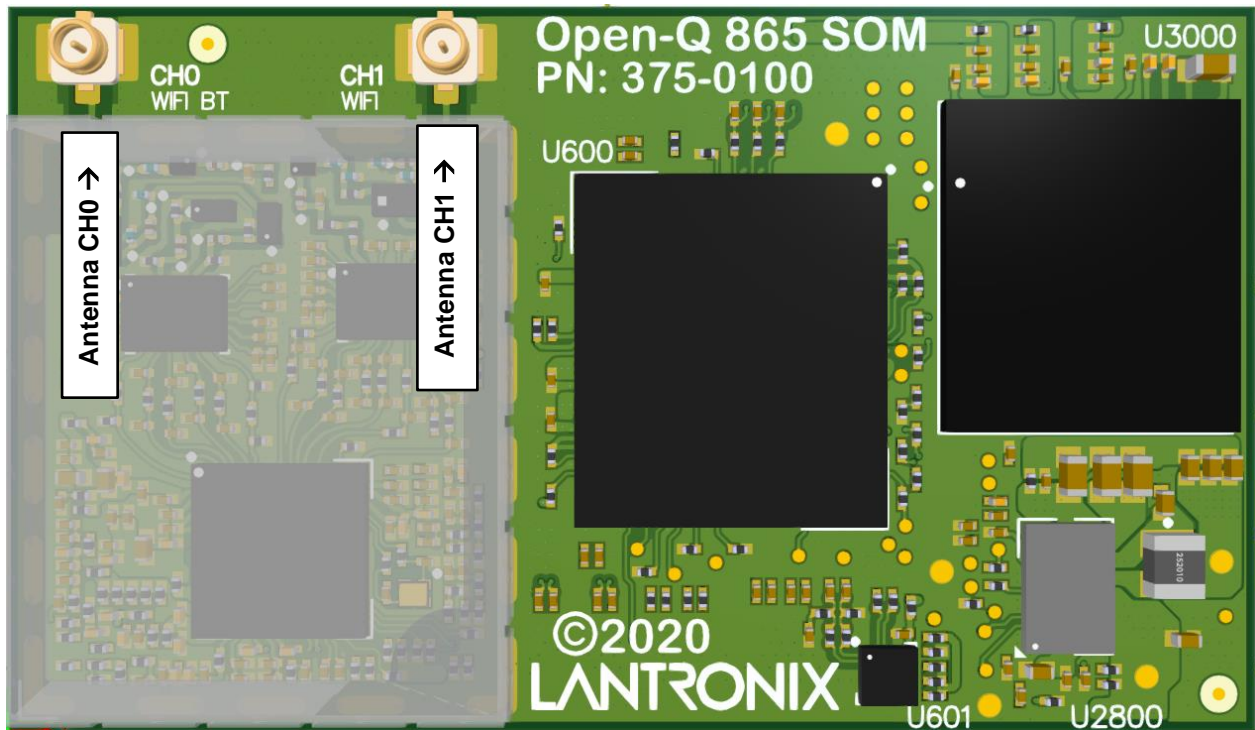

Figure 5. Antenna Connection Locations on SOM
The SOM uses two U.FL coaxial connectors (Hirose U.FL-R-SMT-1 (10)) for the antenna ports, as shown in Figure 5 below.